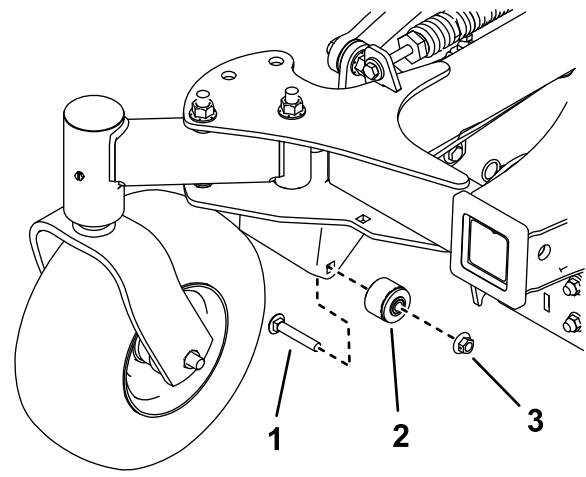

**Figure 29**
- Remove the stop brackets (Figure 29).